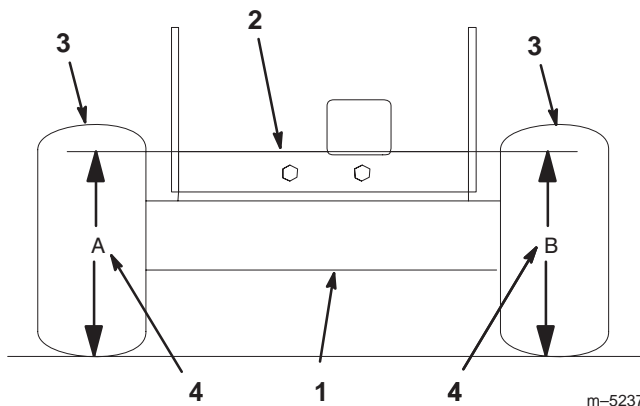

Figure 44
3. Measure engine deck height at location "A" (Fig. 44).
4. Measure engine deck height at location "B" (Fig. 44).